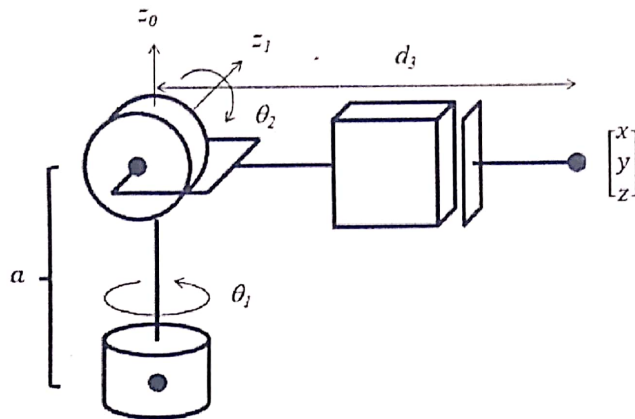

Figure. 2: A 3 Joint Robot Geometry
- b) Given in Figure 2 is a three (3) joint robot manipulator. (4 marks)
- ii. Develop the table representing the Denavit-Hatnberg parameters for the manipulator in Figure 2. (3 marks)
- c) Solve the inverse kinematics problem presented in Figure 2, given that link  $d_3 \geq 0$  and the end effector location is  $(x, y, z)^T$  (4 marks)